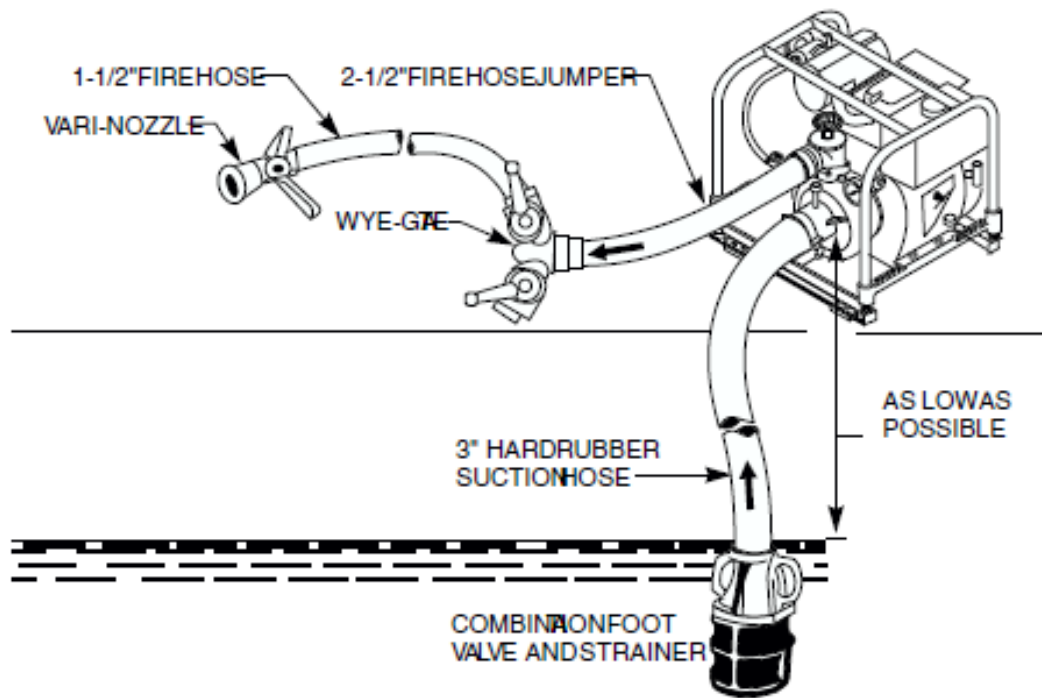

Figure 551-88L-2048_08
(1) Using spanner wrench, attach a 3 suction line to pump suction fitting. Suction line must consist of required number of 10' lengths of suction hose with a foot valve/strainer unit on submerged end. Make sure all connections are secure, (refer to Figure 551-88L-2048_08).